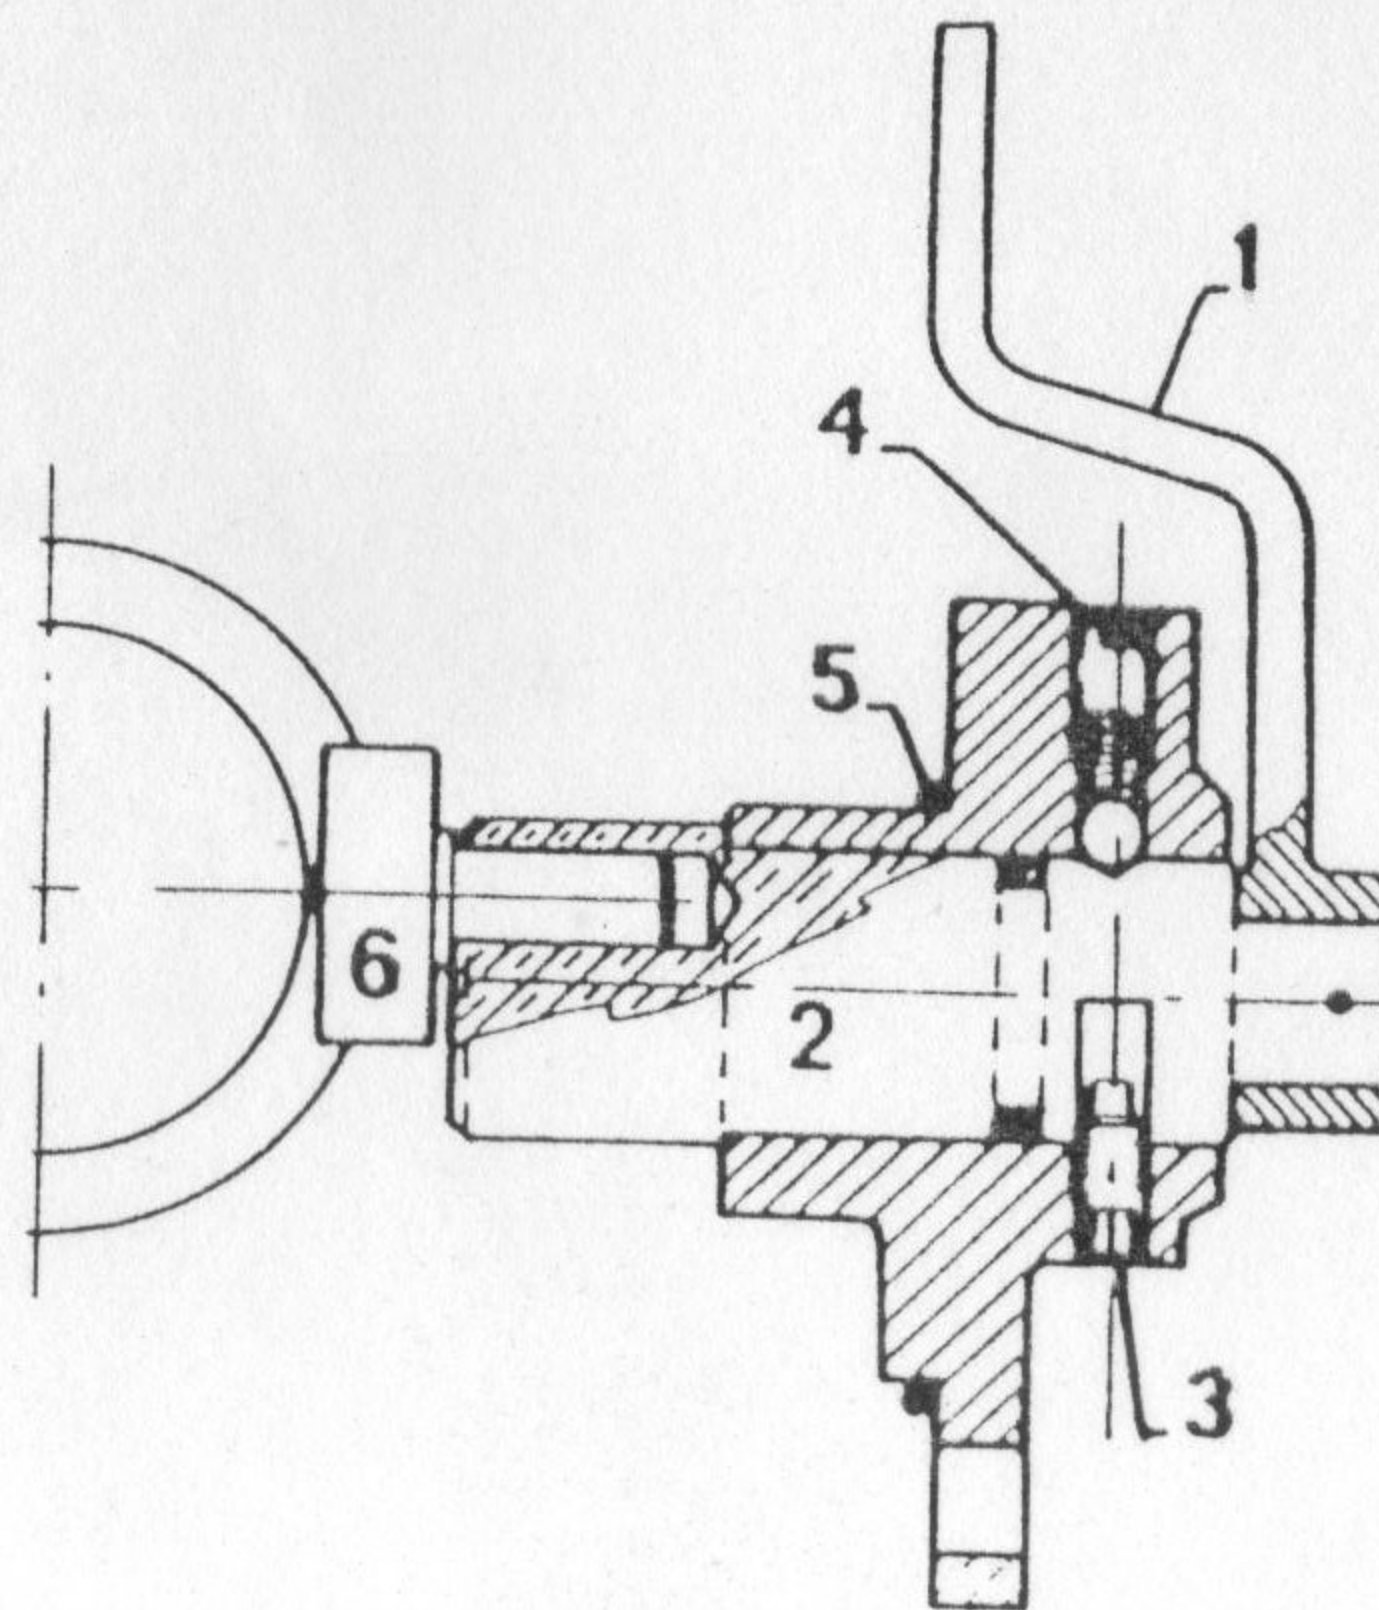

Fig. E4
b) dismantling the control system : (See Fig. E4)